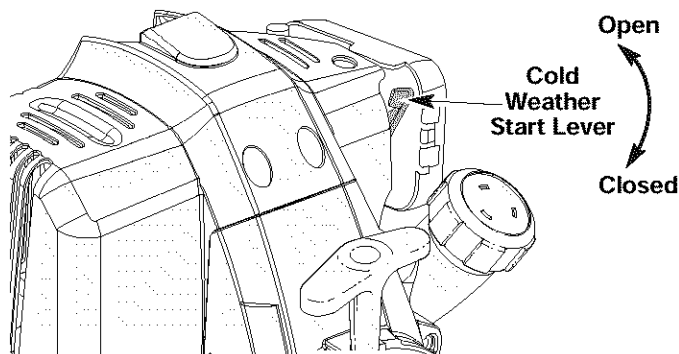

Fig. 13
**NOTE:** For cold weather conditions (when the temperature is below 40°F), flip the Cold Weather Start Lever (Fig. 13) to the choked position and continue to step 4. The choked position is down and closed. **DO NOT** flip this lever down if the temperature is above 40°F.